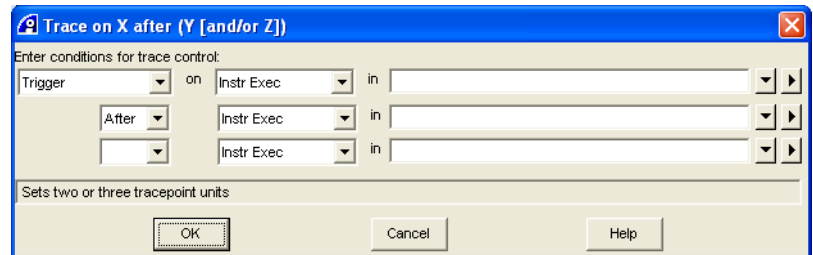

Figure 7-8 Trace on X after Y [and/or Z] dialog box
1. Select **Debug** → **Tracepoints** → **Trace on X after Y [and/or Z]...** from the Code window main menu to open the Trace on X after Y [and/or Z] dialog box. Figure 7-8 shows an example: